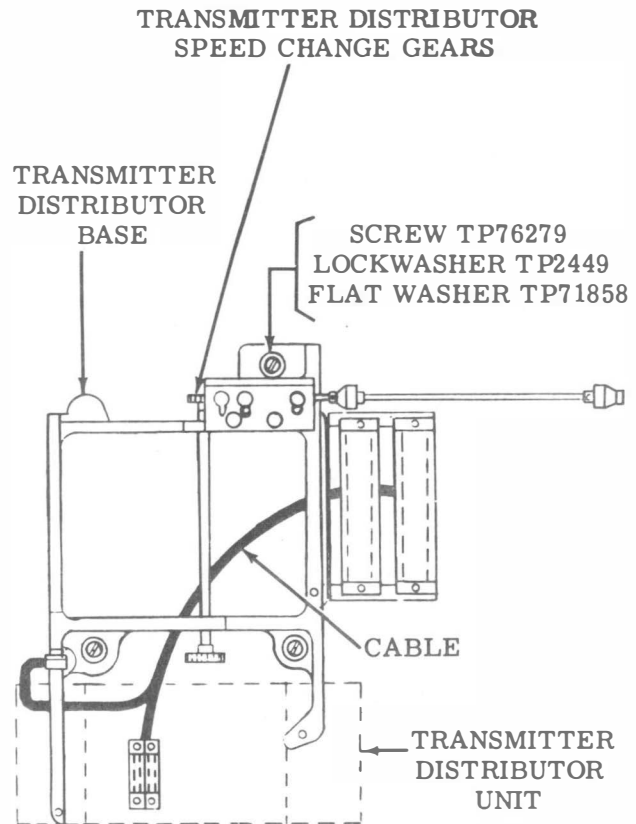

Figure 5 - Typical Transmitter Distributor Unit and Base Arrangement
6.02 Loosen the base locating bracket on the cradle of the cabinet. Install and tighten the two transmitter distributor adjusting studs in the front base rail of the cradle (see Figure 5).
- 6.04 To install the speed change gear set for 60, 75, or 100 wpm operation on the TD base, install the pinion on the short shaft at the rear of the transmitter distributor base and the larger gear on the long shaft which extends to the TD (see Figure 5).
- 6.06 Install the coupling shaft and the two rubber couplings between the driving shaft of the transmitter distributor base and the power shafting of the perforator-transmitter base. The short driving shaft on the TD base and power shafting should be in line. To adjust, move the transmitter distributor base backward or forward until the shafts are lined up. Check with a straightedge (see Figure 5).
7.03 Install the speed change gear set for 60, 75, or 100 wpm operation on the TD base, as follows: Install the pinion on the short shaft at the rear of the transmitter distributor base, and the larger gear on the long shaft which extends to the TD. The gear set to provide the desired speed of operation must be ordered as a separate item (see Figure 5).
- 7.07 Install the coupling shaft and the two rubber couplings between the driving shaft of the base and the power shafting of the perforator-transmitter base. The driving shaft and the power shafting should be in line. To adjust, move the transmitter distributor base backward or forward until the shafts are aligned. Check with a straightedge (see Figure 5).
- 8.04 Install the speed change gear set for 60, 75, or 100 wpm operation on the TD base as follows: Install the pinion on the short shaft at the rear of the transmitter distributor base, and the large gear on the long shaft which extends to the TD (see Figure 5).
with a straightedge. To adjust, use the play in the mounting holes of the transmitter distributor base to line up the driving shaft, the coupling shaft, and the shafting of the perforator-transmitter base. Tighten the transmitter distributor base mounting screws and the setscrews on the rubber coupling (see Figure 5).
9.02 Install the speed change gear set for 60, 75, or 100 wpm operation on the TD base as follows: Install the pinion on the short shaft at the rear of the transmitter distributor base, and the large gear on the shaft that extends to the TD (see Figure 5). The gear set to provide the desired speed of operation must be ordered
the speed change gear set for 60, 75, or 100 wpm operation on the TD base as follows: Install the pinion on the short shaft at the rear of the TD base and the large gear on the long shaft that extends to the TD (see Figure 5).